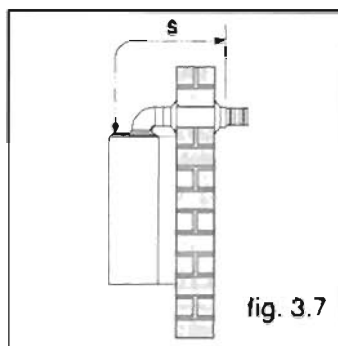

fig. 3.7
- 1 - Minimum flue length 'S' 500 mm (see fig. 3.7)